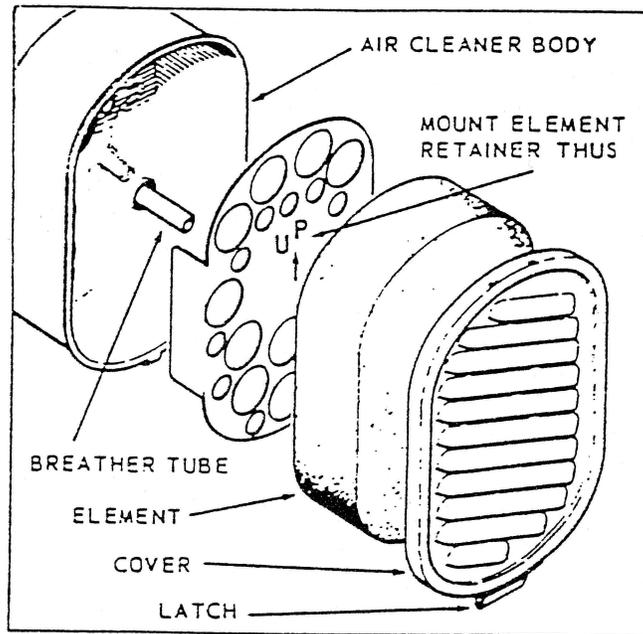

Figure 4-2 Engine Air Cleaner
4.4.2 **REASSEMBLY.** Mount element & retainer with arrow up, and cover with latch at (Gasoline) bottom. See Figure 4-2.